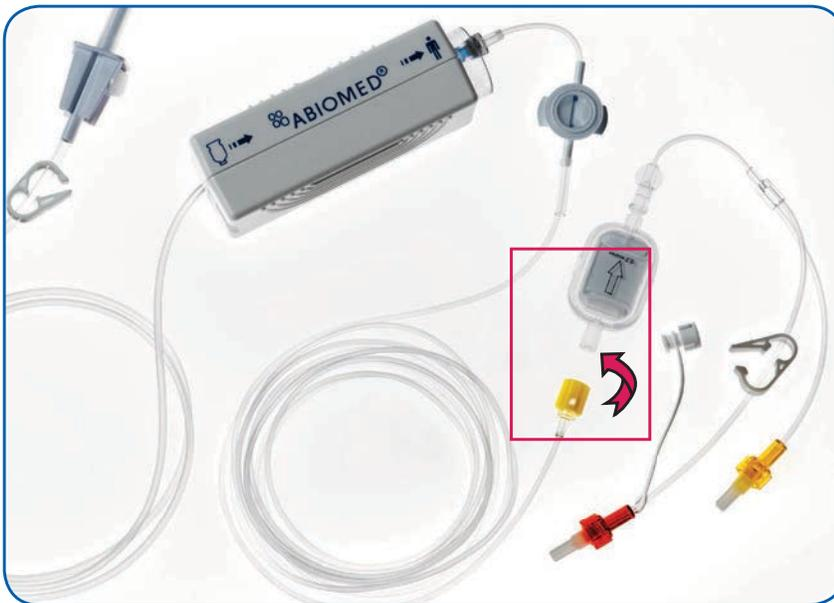

Figure 5.50 Disconnecting the Y Connector from the Purge Cassette Tubing
2. Open the purge cassette package. If the system is in the standard configuration, disconnect the Y connector from the purge cassette tubing as shown in Figure 5.50.